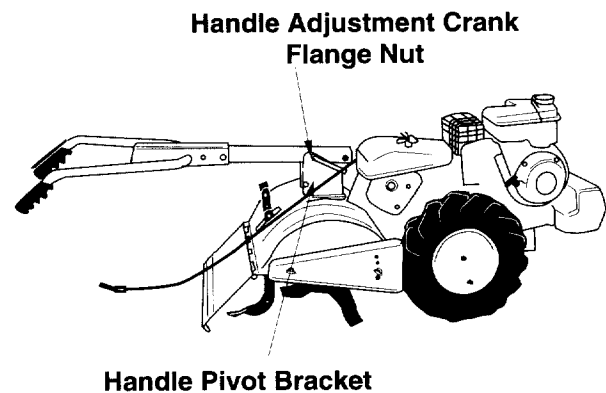

Figure 4
1. Place handle assembly in position in the pivot bracket. See Figure 4.